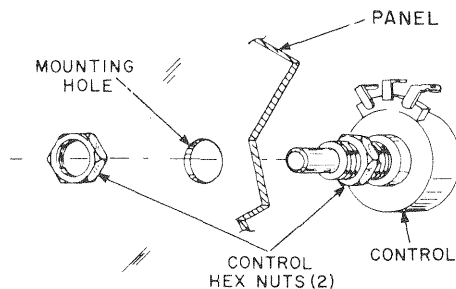

FIGURE 3. HOW TO MOUNT A CONTROL
- (X) Mount R-25, 10K ohms OHMS ADJUST potentiometer, in the large hole in the left center of the panel. Use two nuts to mount this control as shown in Figure 3.